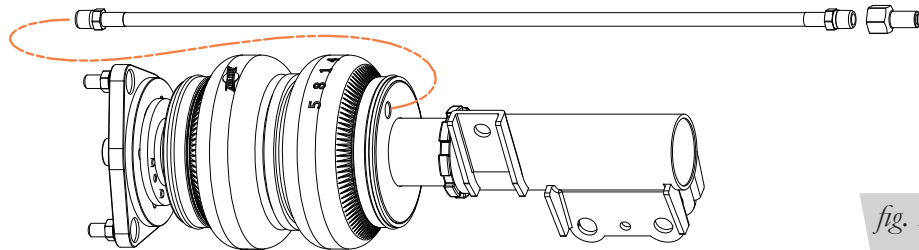

fig. D.9
1. Begin by installing the leader hose into the air spring. Apply thread sealant to the threads of the leader hose. Tighten the appropriate fitting to the air line (1 3/4 turns beyond hand-tight). Tighten the leader hose into the air spring 1 3/4 turns beyond hand-tight (Fig. D.9).